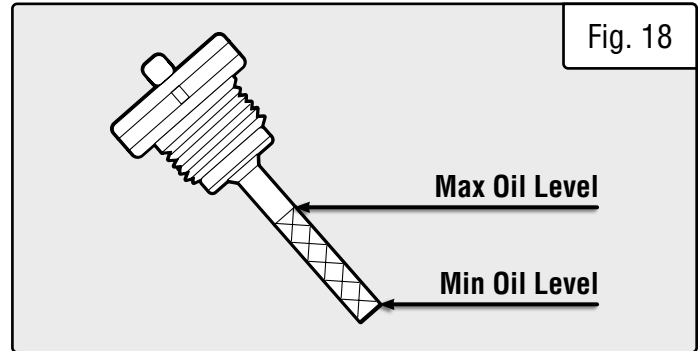

Fig. 18
2. Clean around oil fill. Remove dipstick and wipe the dipstick with a clean rag. Insert the dipstick into the oil fill opening without screwing in. Remove the dipstick to check the oil mark. Add oil if the oil mark covers less than one half of the dipstick. (Fig. 18)